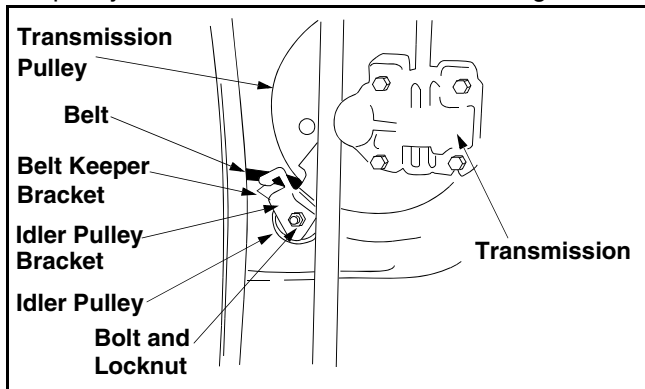

Figure 18
- Tilt the transmission forward and loosen the idler pulley bolt and lock nut half a turn. See Figure 18.
- Slide the belt out from between the belt keeper bracket and the idler pulley. See Figure 18.